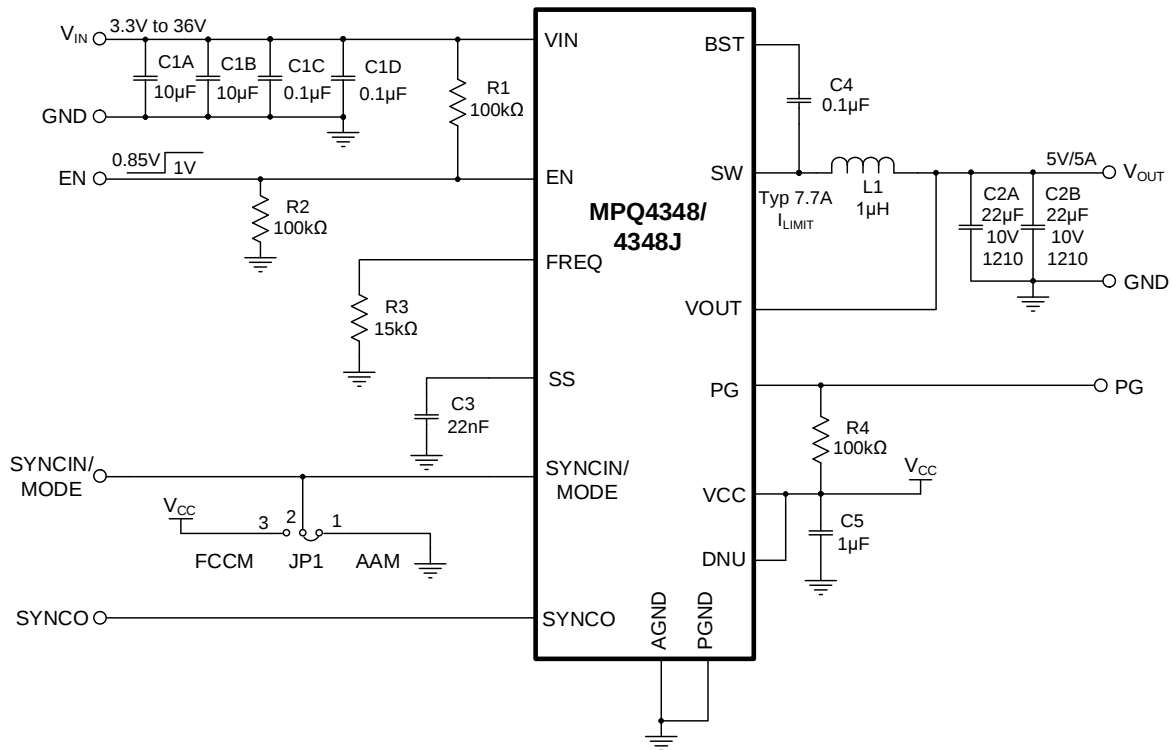

Figure 9: Typical Application Circuit ($V_{OUT} = 5V$, $f_{SW} = 2.2MHz$)
12) The recommended PCB layout is based on Figure 9 on page 41.